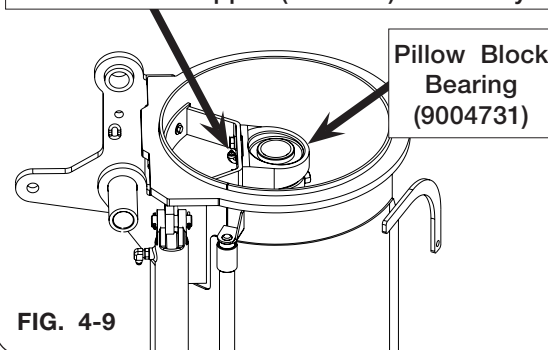

FIG. 4-9
5. Insert 5/8"-11UNC hardware into hanger bearing assembly and the auger tube. (FIGS. 4-9 and 4-10)
10. Lower the upper auger assembly, turn off tractor and remove key. Slowly turn lower auger by hand while applying grease to the hanger bearing. Grease until the grease purges out and around the drive dog housing. Apply a light coat of surface grease to drive dog conical shaft. Wipe off excess purged grease from hanger bearing top seal area. (FIG. 4-9)